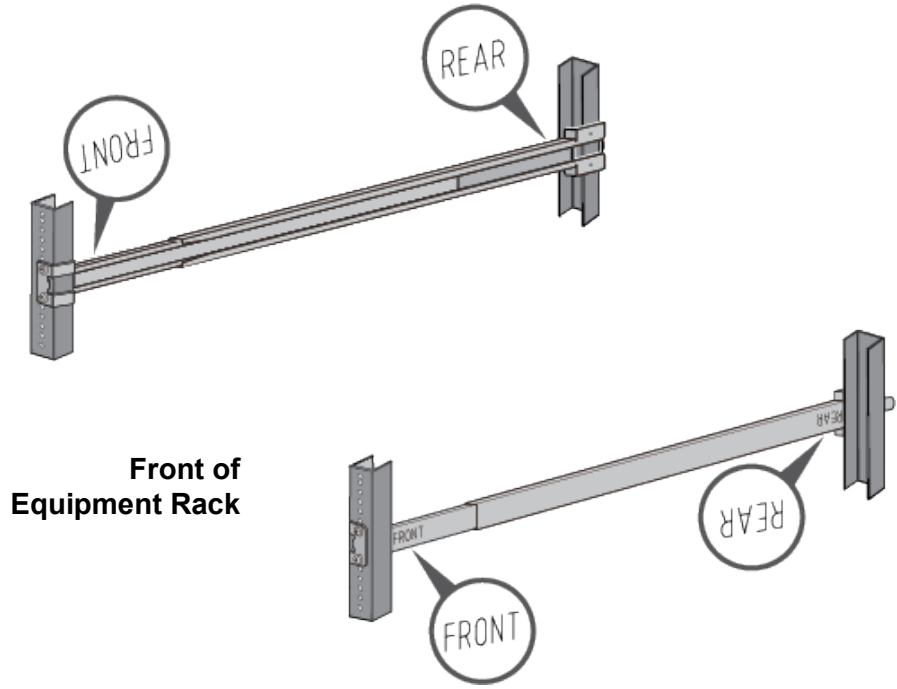

Figure 84. Installing the Outer Rails on the Equipment Rack
2. Attach the outer rails to the equipment rack using the supplied screws. Use four screws per rail. Refer to Figure 84 on page 145. Installing the switch can be easier if you leave the screws slightly loosened now and fully tightened them after the switch is installed.